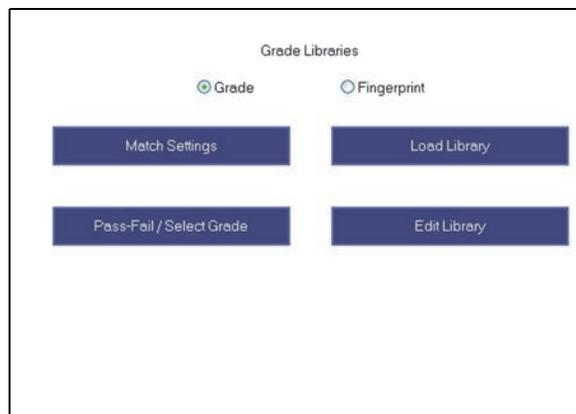

Figure 2-23 The Grade Libraries pane
8. Click **Back** to return to the **Grade Libraries** pane (see Figure 2-23 on page 62).